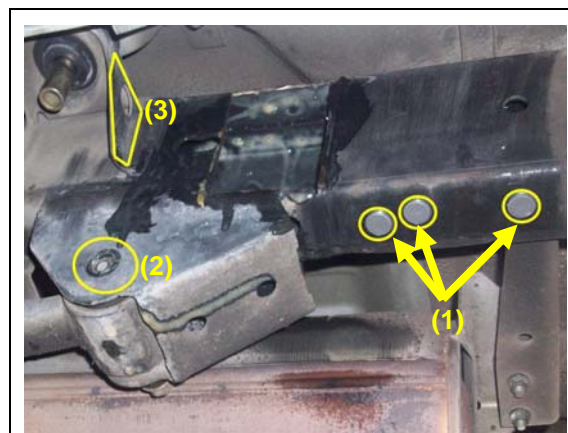

Figure 24
12. Using the 3/4" round labels provided in the service kit, mask off the Pop-nuts. Use tape to mask off other related bracket mounting locations highlighted in Figure 24. This is required to inhibit Noxudol chemicals from coating the bracket mounting surfaces.